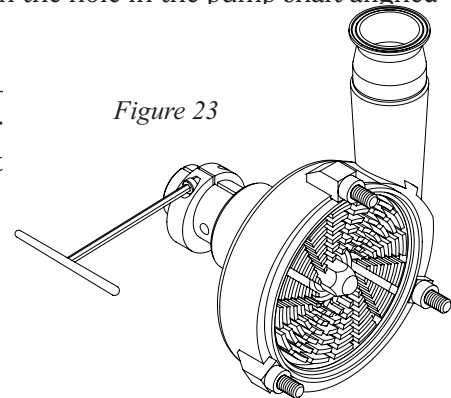

Figure 23
- f) *Align the slot of the shaft collar (37) directly over one of the slots on the shaft (Figure 23).*
- h) Tighten the shaft collar screw (36) in the shaft collar (37) to the proper torque, see page 5 (Figure 23).